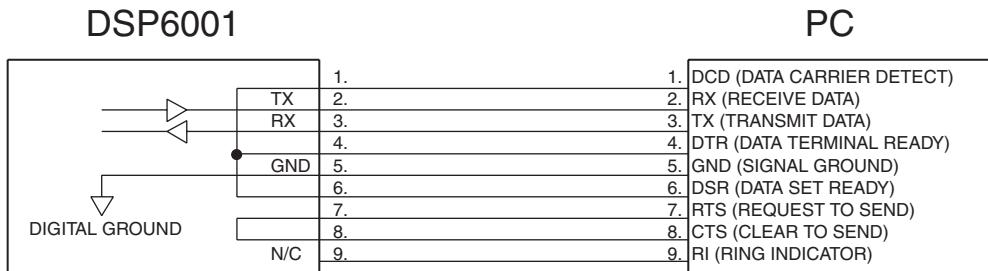

Figure 8–4 Straight Through Pin-to-Pin Cable Connection
2. Press the COM SETUP button. The display will appear as shown in *Figure 8–2 Com Setup Menu Display*.